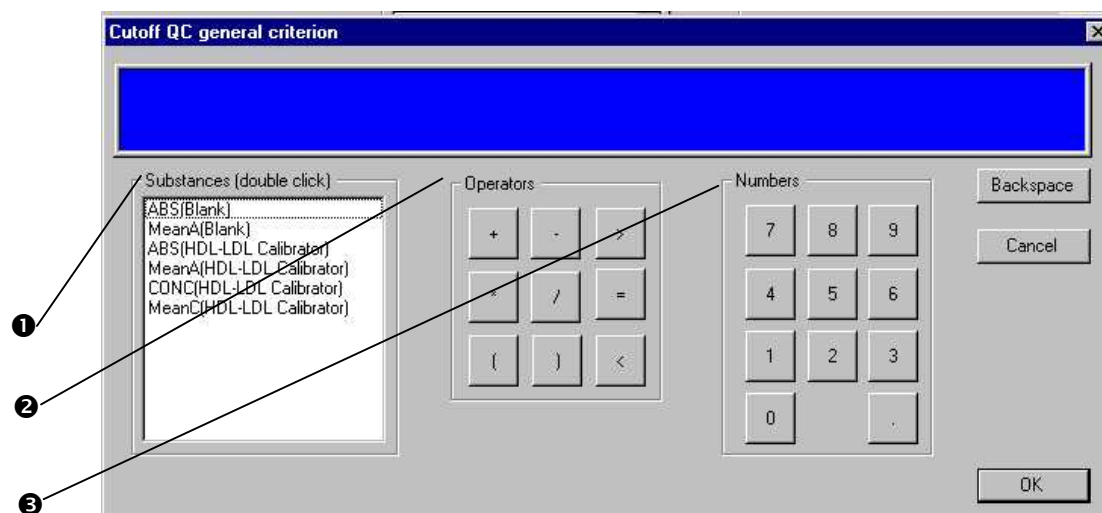

Figure 7.3.3 Cut-off QC General Criterion
If no suitable template exists for the required equation, define a custom equation by clicking on the General Formula button. This brings up the window shown in **Figure 7.3-3 Cut-off QC General Criterion**. By clicking on the Substances^①, Operators^②, and Numbers^③ you can enter any QC equation that you would like. This General Formula option is also accessible from the QC button in assay modes “other than cut off mode”.